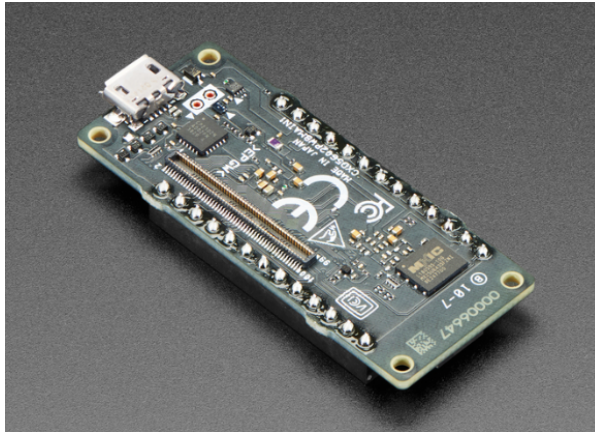

Figure 19. Micro USB on Sony board
- 1 - micro USB on Sony board (Fig 19);